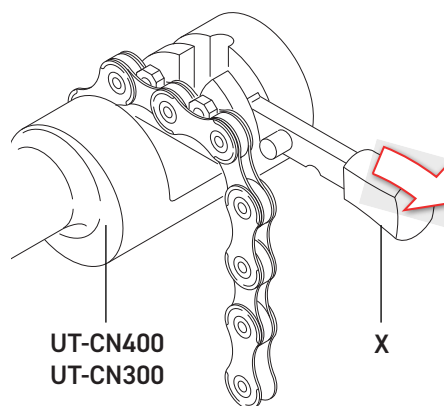

Fig.11
- Position the tool **UT-CN400 (12s) / UT-CN300 (11s / 12s)** as shown in Fig. 11.
- Fit the link to be closed in the relative seats (Fig. 11).